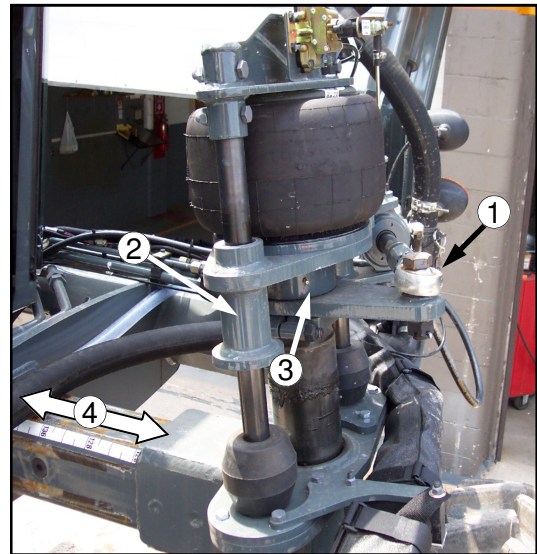

FIG. 122-1
**LEGS AND STEERING**— The front legs have a grease zerk in the tie rod ball (figure 122-1, item 1) that needs greased every 50 hours or weekly.
Both the front and rear legs have two grease zerks, one in each of the tower bearings (figure 122-1, item 2) that must be greased every 50 hours or as necessary. There is a zerk in the collar (figure 122-1, item 3) that also needs greased every 50 hours or as necessary.
The slide path of the tread adjust (figure 122-1, item 4) should be greased every 50 hours depending on the amount of usage.